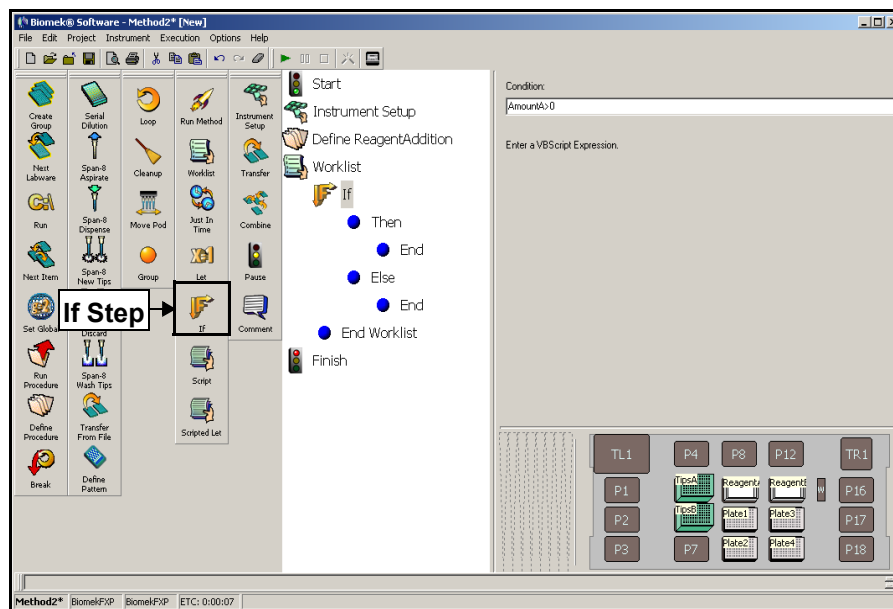

Figure 8-8. Condition entered in If step
2. In Condition, enter **AmountA > 0**. The main editor should look like Figure 8-8.